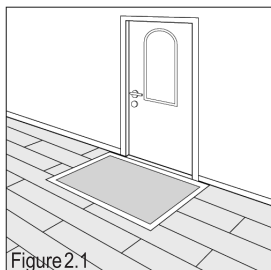

Figure 2.1
- Use floor mats at all entrances to help keep dirt and moisture from being tracked in (Figure 2.1). Area rugs are recommended in high traffic areas and at sinks. Mats and area rugs should be slip resistant with backing that will not discolor the floor. Do not use rugs with latex, rubber backing, or coco-fiber as they may discolor your floor.